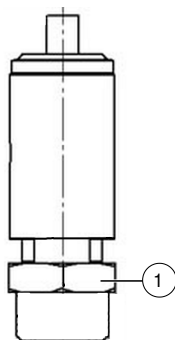
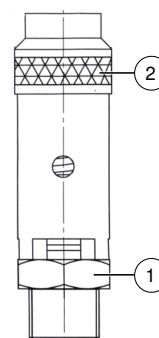

Fig. 18: 1/4" connection safety valve
Fig. 19: 1/2" connection safety valve
2. Open the safety valve for a few seconds by turning the knurled nut (Fig. 19 on page 35) counterclockwise. During this process, the closure of the safety valve opens, whereby the air must escape.
1. Attach an open end spanner to the spanner flat (Fig. 18 on page 35 and Fig. 19 on page 35) and unscrew the safety valve by turning counter-clockwise.